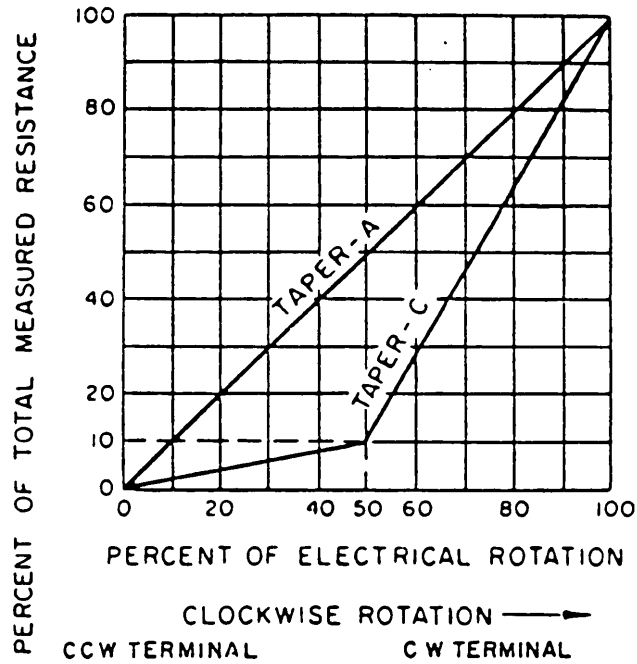

FIGURE 202-4. Clockwise tapers.
3.4 Linear and nonlinear tapers. Taper A is a linear resistance taper, which is one having a constant change of resistance with angular rotation, while taper C is a nonlinear resistance taper, which has a variation or lack of constancy in the change of resistance with angular rotation. (See figure 202-4.)